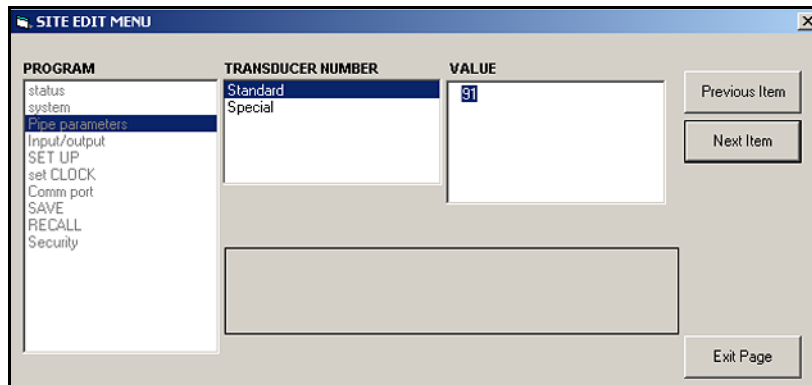

Figure 37: Site Edit Menu - Pipe Parameters Option
- a. Highlight and double-click on the desired option in the left pane. *Figure 37* below shows the first entry (*Transducer Number*) in the *Pipe Parameters* option. The title above the center pane lists the current entry, while the center pane displays the available selections for that entry.